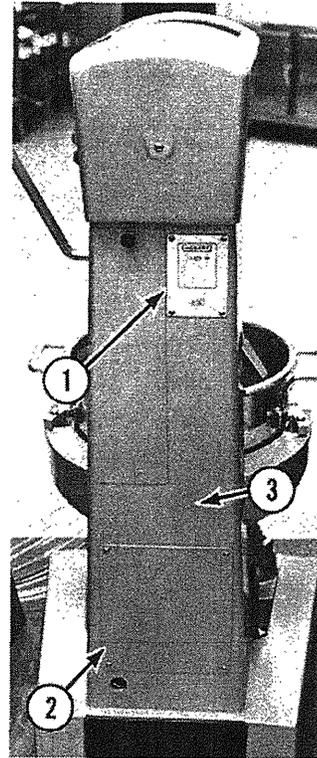
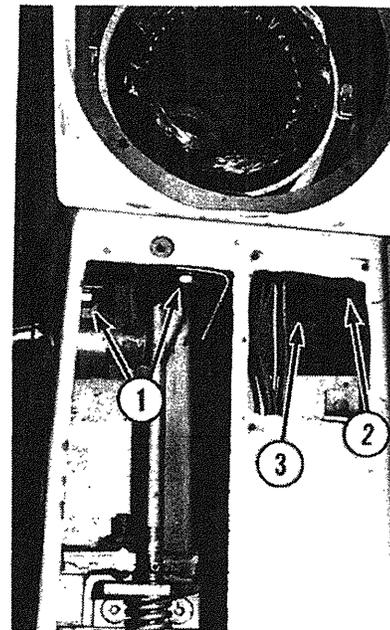

Fig. 7-1
Fig. 7-2
- G. Remove machine data plate (1, Fig. 7-1) and capacitor and starter access cover (2, Fig. 7-1).
- H. Remove two cap screws (1, Fig. 7-2).
- I. Remove cap screw (2, Fig. 7-2) and screw (3, Fig. 7-1). This will allow the air baffle to be moved to the lower part of the pedestal allowing you to remove screw (3, Fig. 7-2). It may be necessary to cut the paint seam between the pedestal and transmission case. (Transmission case will be heavy so it may take two people to lift from the pedestal).